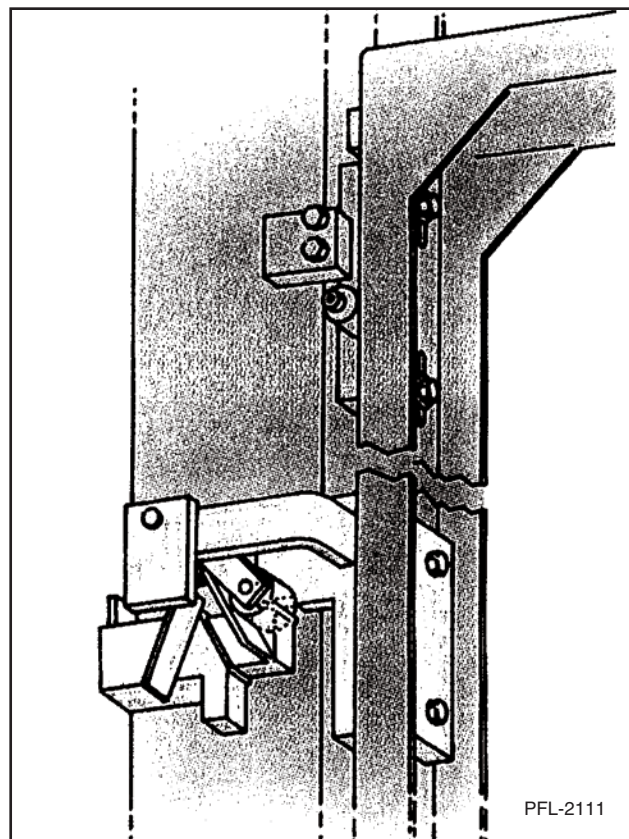

Figure 12
5. The carriage is lowered to designated level. Decklock system is engaged and carriage is locked to main lift columns. Safe support is maintained during loading and unloading operations. See Figure 12.